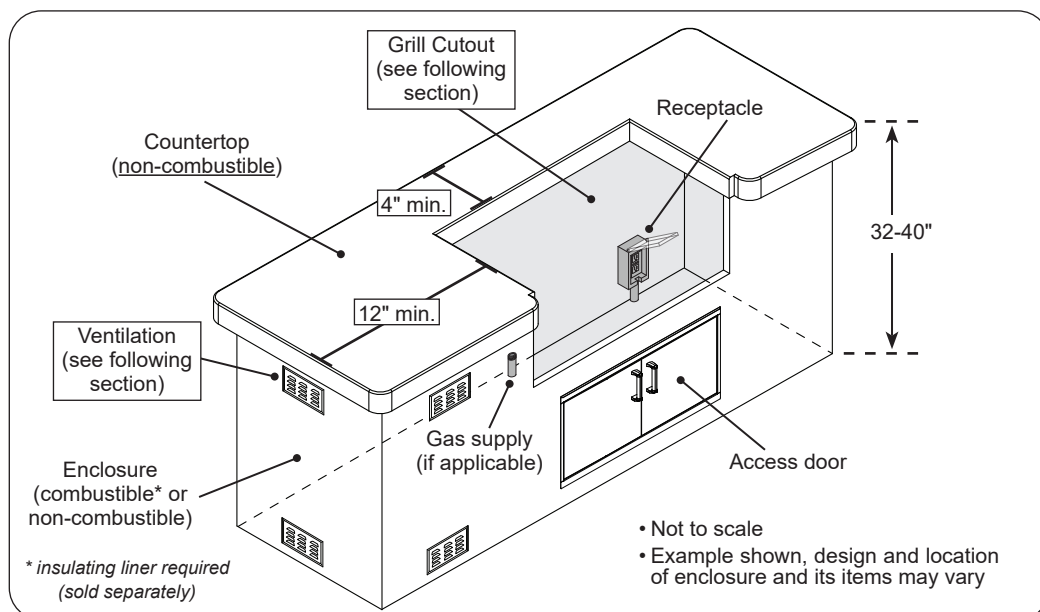

Fig. 10-1 Enclosure specifications
The enclosure can be constructed according to your individual preference, while following all guidelines found in this manual. **The enclosure MUST (see Fig. 10-1):**
- have the minimum dimensions specified in Fig. 10-1
- meet all requirements found in Fig. 10-1 and the following sections